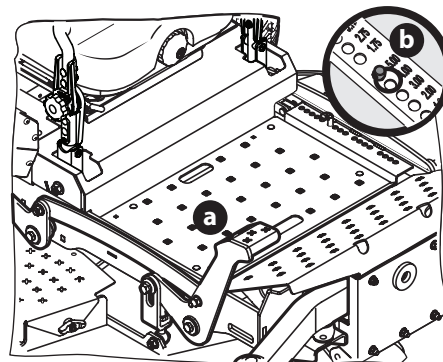

Figure 34
1. Use the deck lift pedal (a) to raise the deck to its highest position, place the clevis pin (b) attached to the mower into the desired index hole on the deck height index, then slowly release the deck lift pedal (a) (Figure 34).